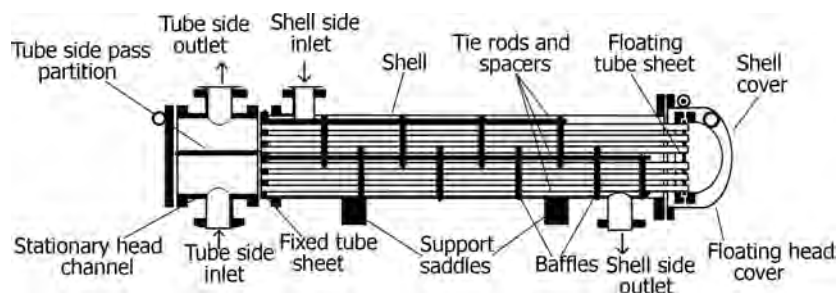
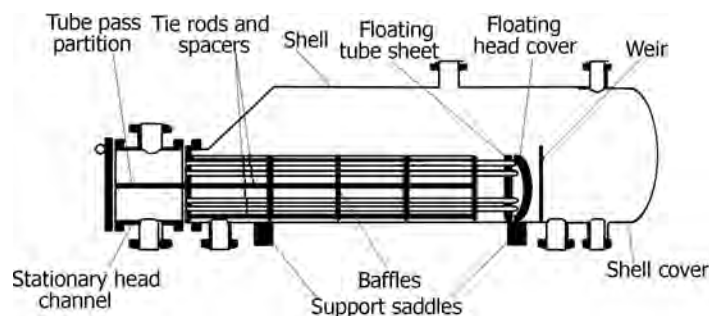

FIGURE 10.4 Pull-through 1-2 floating head heat exchanger with baffles (TEMA S).
FIGURE 10.7 Pull-through floating head heat exchanger, suitable for kettle reboilers (TEMA T).
- 1–2 shell and tube heat exchanger means that it has one shell pass and two tube passes (see Figure 10.4). The tube passes will be in multiples of two (1–2, 1–4, 2–4, etc.).
- In a floating head heat exchanger, one tube sheet is fixed relative to the shell and the other is free to *float* within the shell. This permits free expansion of the tube bundle (Figures 10.4 and 10.5).
- There are various types of floating head construction. The most common ones are the pull-through type with backing device, TEMA S (Figure 10.4) and pull-through TEMA T (Figure 10.7) designs.
- In the TEMA T construction (Figure 10.7), the entire tube bundle, including the floating head assembly, can be removed from the stationary end, since the shell diameter is larger than the floating head flange. The floating head cover is bolted directly to the floating tube sheet so that a split-backing ring is not required.